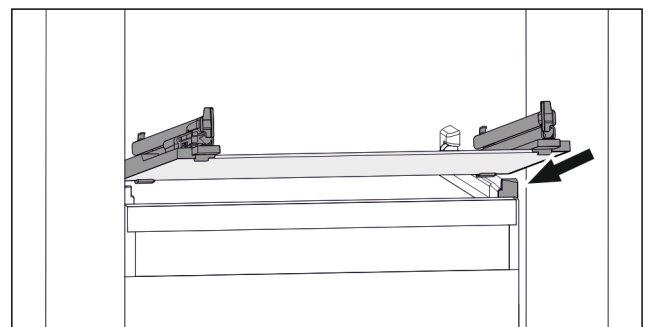

Fig. 98 Example illustration of glass shelf
- ▶ Position glass shelf at an angle behind the stoppers. (see Fig. 98)